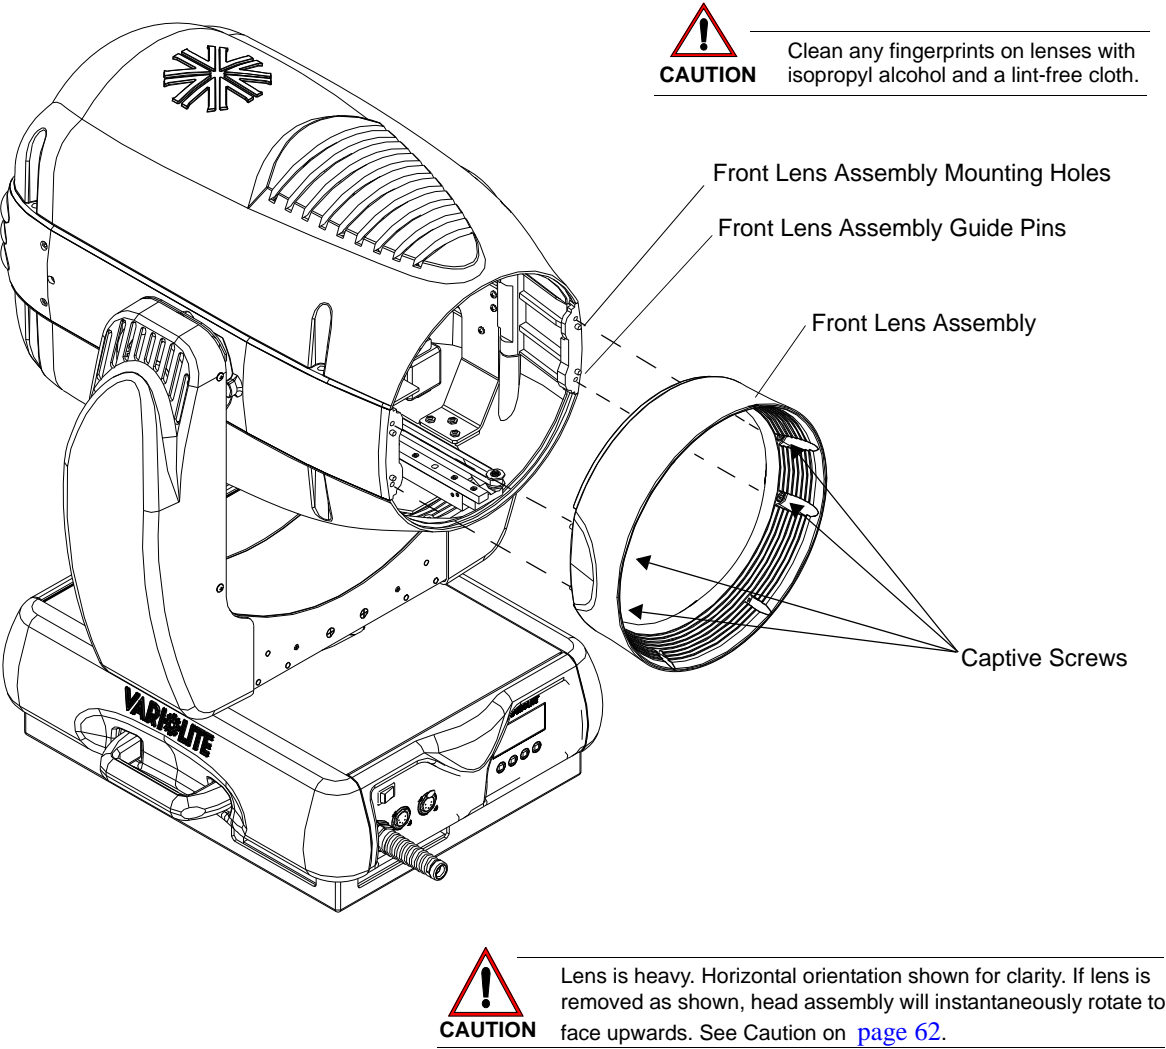

Figure A-4: Front Lens Assembly Removal
Step 2. Tilt the head to avoid uncontrolled movement. As shown in Figure A-4, remove front lens assembly by loosening four captive screws.
Step 3. Carefully position replacement front lens assembly so captive screws align with guide pins and mounting holes as illustrated in Figure A-4.